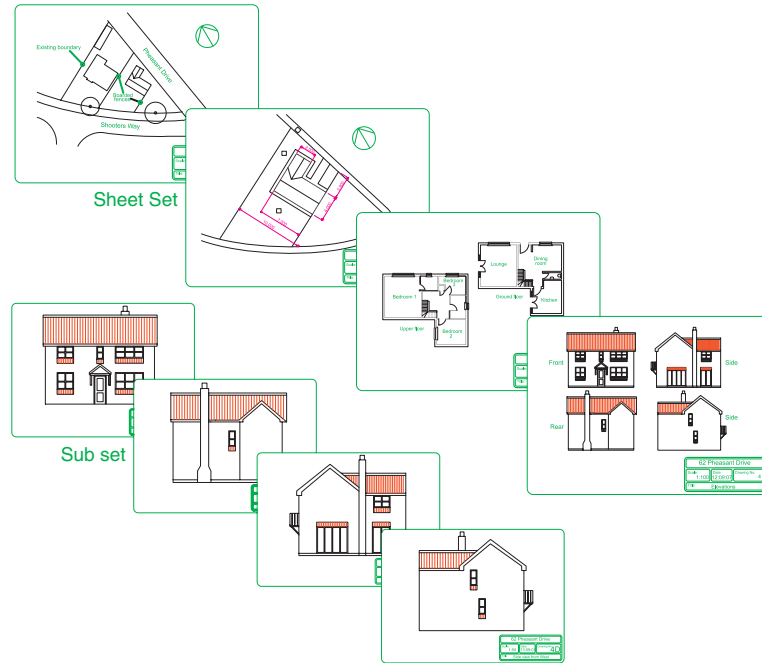

Fig. 11.2 The eight drawings in the **62 Pheasant Drive** sheet set
2. Construct each of the drawings which will form the sheet set in this drawing template. The whole set of drawings is shown in Fig. 11.2. Save the drawings in a directory – in this example this has been given the name **62 Pheasant Drive**.